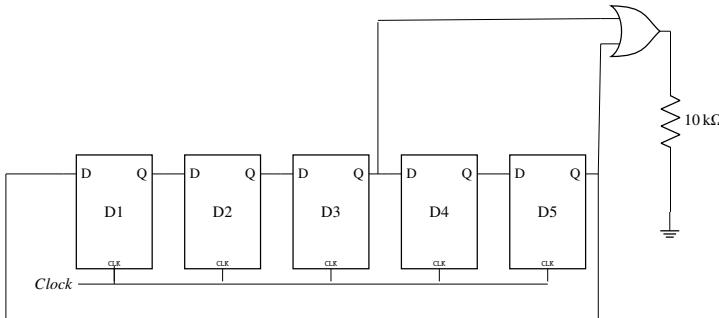

Fig. 5.23
23. Assume that all the digital gates in the circuit shown in Fig. 5.23 are ideal, the resistor  $R=10k\Omega$  and the supply voltages is 5V. The D flip-flops  $D_1, D_2, D_3, D_4$  and  $D_5$  are initialized with logic values 0, 1, 0, 1, and 0, respectively. The clock has a 30% duty cycle. The average power dissipated in the resistor R is \_\_\_\_\_. (GATE EC 2016)